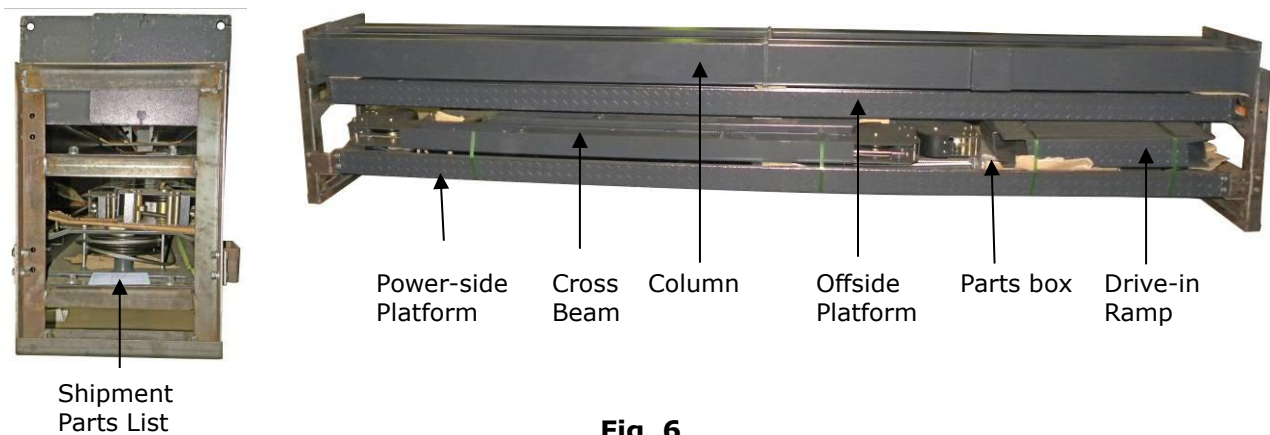

Fig. 6
2. Open the outer packing carefully, check the parts according to the shipment list. (See Fig. 6).